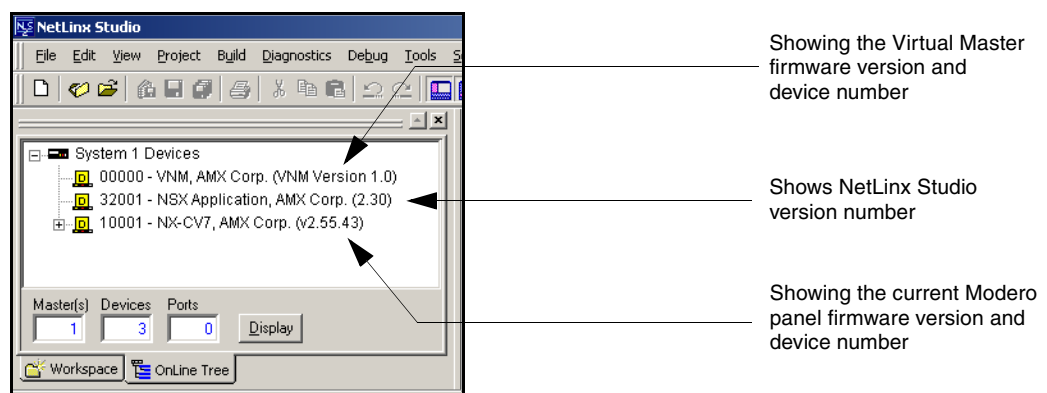

FIG. 48 NetLinX Workspace window (showing the panel connection via a Virtual NetLinX Master)
3. After the Communication Verification dialog window verifies active communication between the Virtual Master and the panel, click the **OnLine Tree** tab in the Workspace window (FIG. 48) to view the devices on the Virtual System. *The default System value is one.*
4. Right-click on the System entry (FIG. 48) and select **Refresh System** to re-populate the list. Verify the panel appears in the **OnLine Tree** tab of the Workspace window. *The default Modero panel value is 10001.*